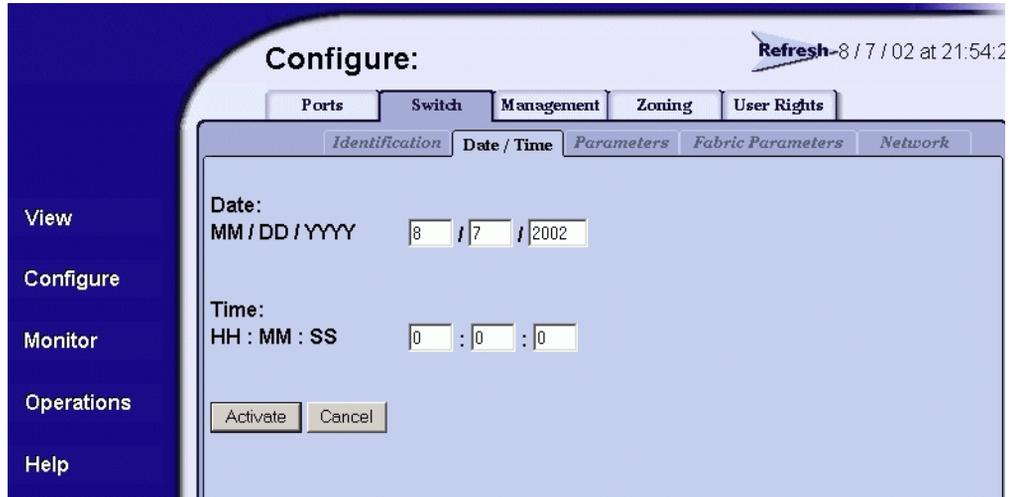

Figure 2–5: Switch page—Date/Time tab
1. At the **Configure** window, click the **Switch** tab, then select **Date/Time** tab. The Switch page displays with **Date/Time** tab selected (highlighted red), as shown in Figure 2–5.